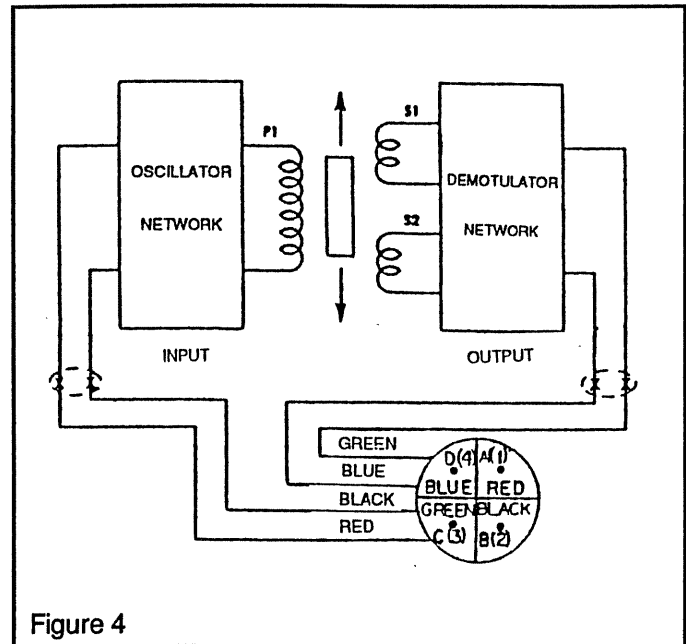

Figure 4
As illustrated in Figure 4, a DcLVDT consists of the following components:
3. Observing correct polarity, connect the positive (+) input lead to Pin A and the negative (-) input lead to Pin B. (See Figure 4.)
4. Connect the positive (+) output lead to Pin D and the negative (-) output lead to Pin C. (See Figure 4.)
2. Connect a voltmeter to Pins C and D (See Figure 4.)
To check, turn off power and disconnect the input and output leads. Check coil continuity and resistance. (Refer to Figure 4.)